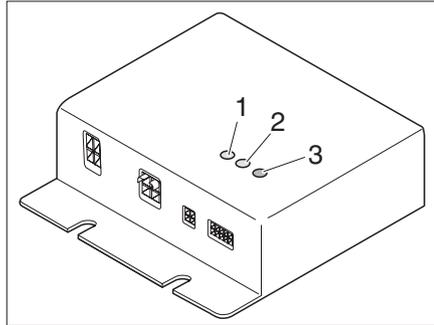

Fig. 83 Control unit
The control unit (Fig. 83) is installed in the wardrobe. The control lamps on the control unit have the following meanings:
- The indicator LED (Fig. 83,1) HC1 lights up in green: Heating circuit 1 is operating
- The indicator LED (Fig. 83,2) HC2 lights up in green: Heating circuit 2 is operating
- Fault LED (Fig. 83,3)